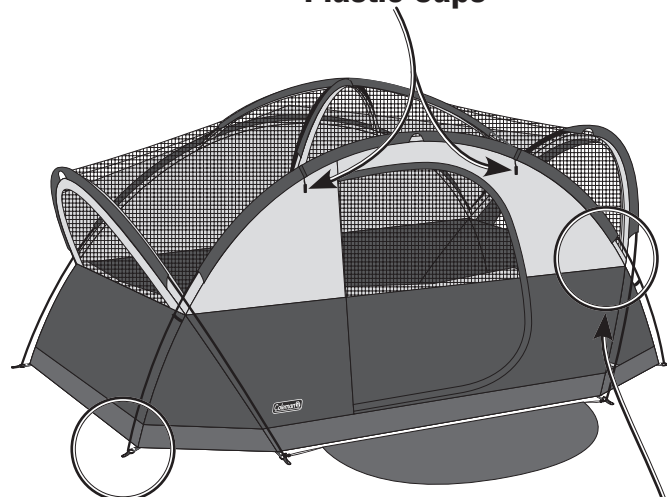

Fig. 3
- Insert one pin into one end of the pole. (Fig. 3 and 4)